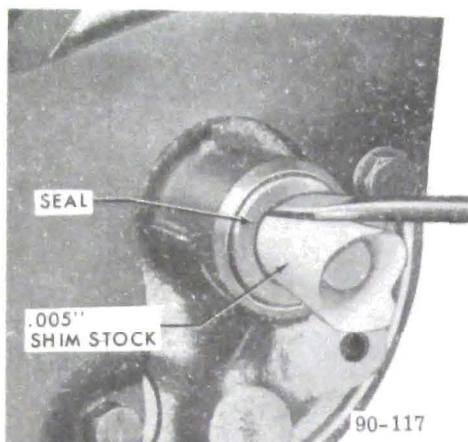

Figure 90-78 Removing Oil Pump Shaft Seal
5. Insert a piece of .005" shim stock (approximately 2-1/2" long) around shaft and push it past seal until it bottoms in pump housing. See Figure 90-78.
6. Remove seal by cutting metal body of seal with a sharp tool and prying out. See Figure 90-78. *Extreme care must be used to prevent damage to shaft and pump housing.*